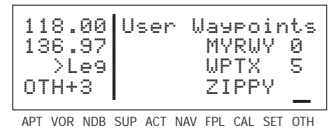

Figure 4-203
3. Press **[ENT]** to approve the deletion (figure 4-203).